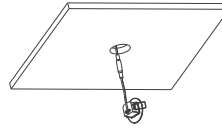

Figure 3-3
3. Pinch the 2 springs upward and push in the ceiling hole and release the springs (Figure 3-3).